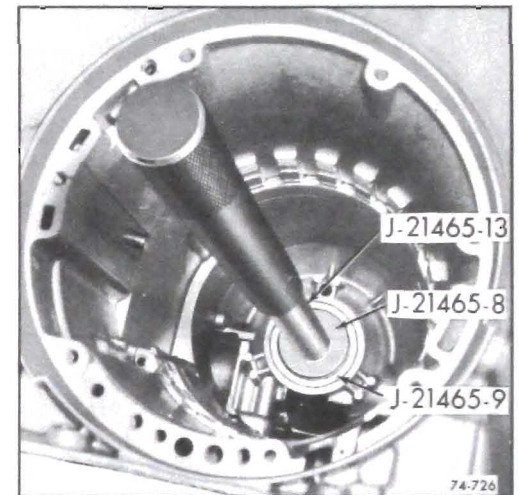

Figure 76-726
b. Using Adapter J-21465-9 on J-21465-8 driver handle and extension J-21465-13, with lube passage facing front of transmission case, install new bushing into case, until .040" - .055" above selective thrust washer face. See Figure 76-726.